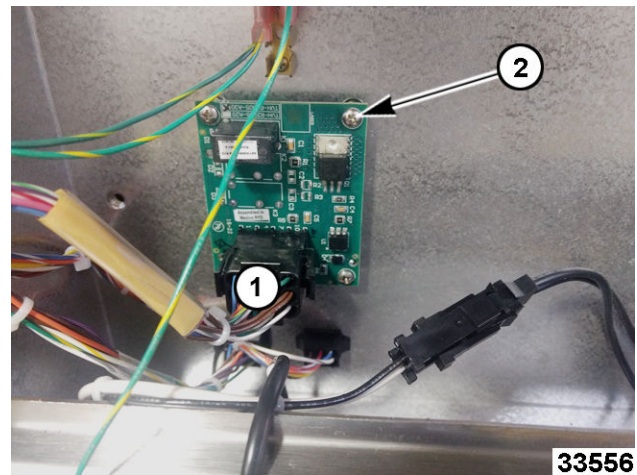

Fig. 11
2. Disconnect interface board wire harness plug (1, Fig. 11).
3. Remove interface board mounting screws (2, Fig. 11).